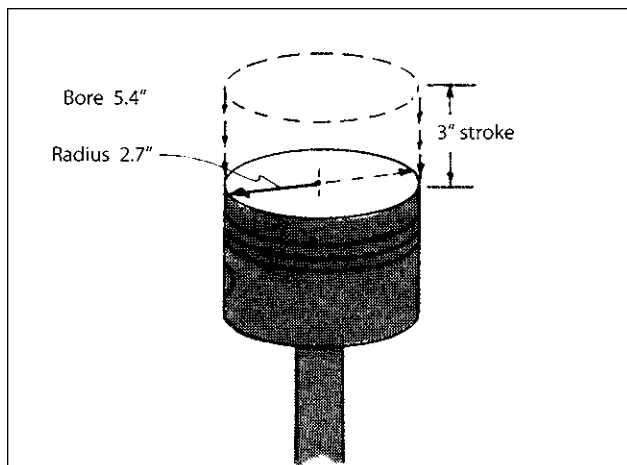

Figure B-5. Piston displacement.
Engines are classified by the cubic-inch displacement in the cylinders or the volume of air in all cylinders if the pistons are in the bottom dead center or "withdrawn" position. For example, suppose the *diameter* of each piston (with rings) of a four-cylinder engine is 5.4 inches (its *bore*) and it *travels* 3 inches (its *stroke*) from full up to full down (or in a horizontally opposed engine, full out to full back) (Figure B-5). One cylinder's displacement is the volume of that travel. Volume (V) or displacement = area \times distance. (Area = πr^2 .)